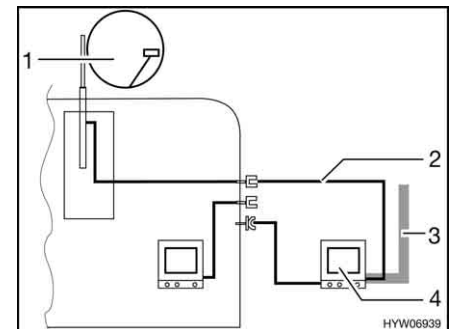

Fig. 129 TV in the awning
- TV inside the awning (Fig. 129,4): Connection to roof antenna (Fig. 129,1) with connection cable (Fig. 129,2)
- TV inside the awning (Fig. 129,4): Connection to external antenna (Fig. 129,3)